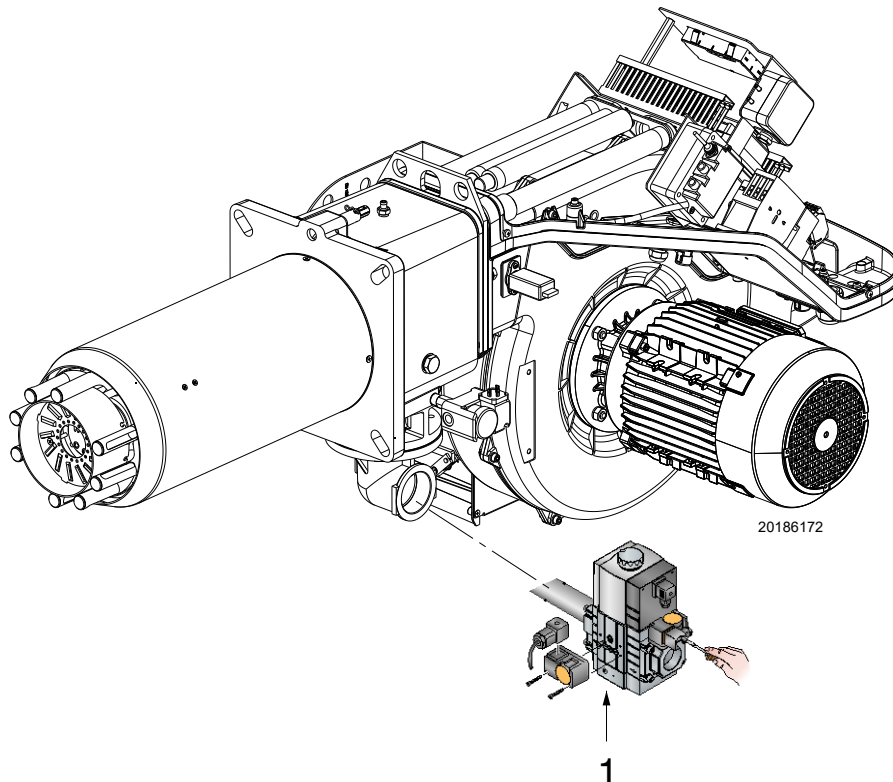

Fig. 28
- Check the gas supply pressure by connecting a pressure gauge to the pressure test point 1)(Fig. 28) of the minimum gas pressure switch: it must be lower than the maximum allowed pressure of the gas train, as shown on the characteristics label.